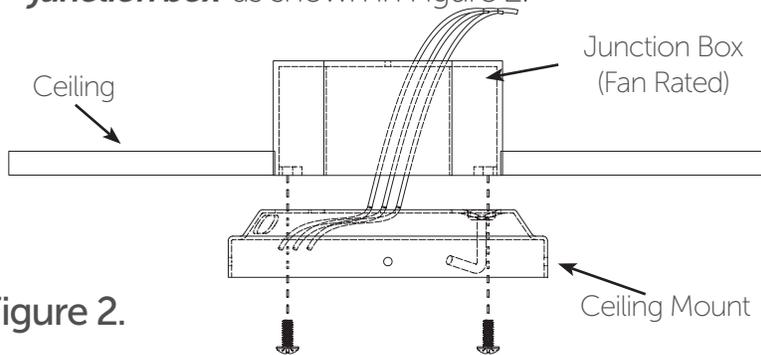

Figure 2.
- Secure the ceiling mount to the junction box **using the hardware supplied with the junction box** as shown in Figure 2.